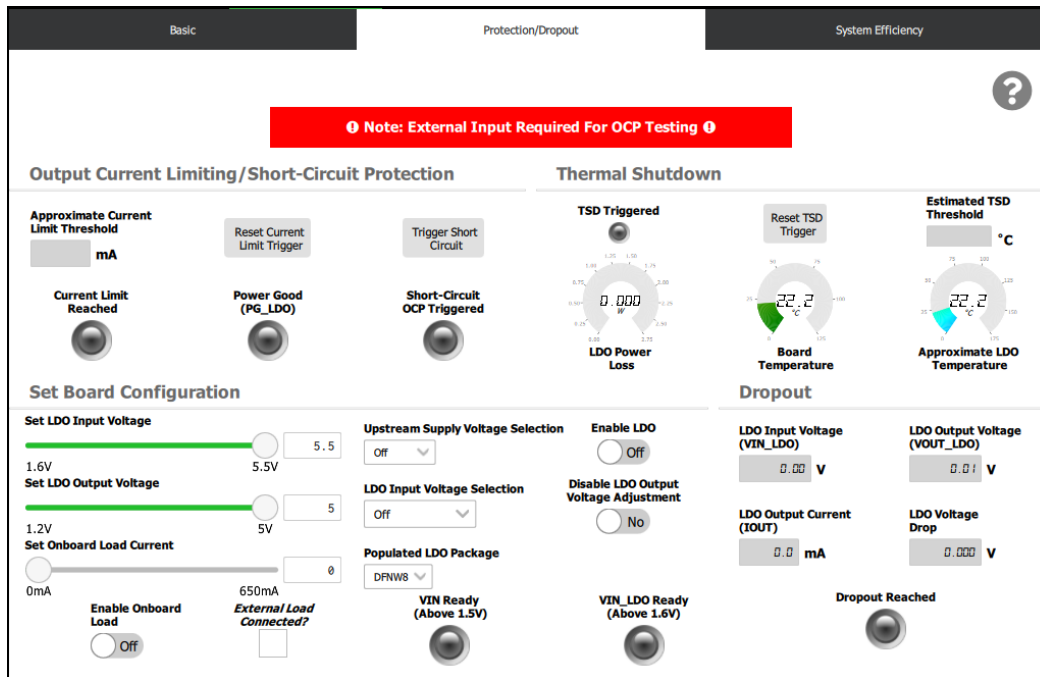

Figure 4: "Protection/Dropout" UI view
7. The “Protection/Dropout” view (shown in Figure 4) provides the ability to test the LDO’s current limit protection, TSD protection, and dropout voltage.